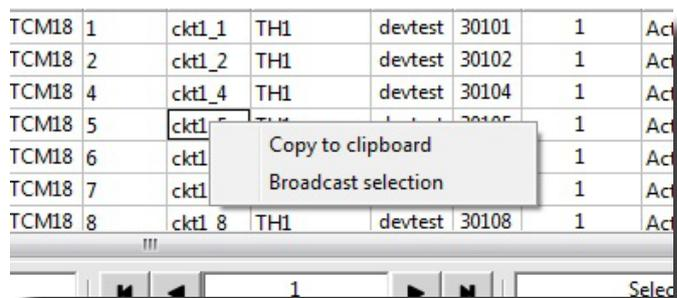

Figure 3: Broadcast Selection
2. **Broadcasting:** Right-clicking an item in a list usually gives two options: “Copy to clipboard” and “Broadcast selection” (Figure 3). Broadcasting will send the selected item to the Search Results of the trees of all other TraceNet Command applications that are open. Note that this feature works only when the launcher is running, since the launcher functions as the communication hub.